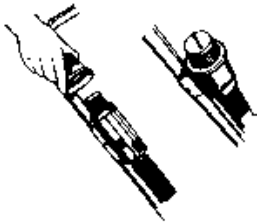

Figure 5 - Snorkel Air Intake
3.2 Snorkel Air Cleaner (Refer Fig. 5)